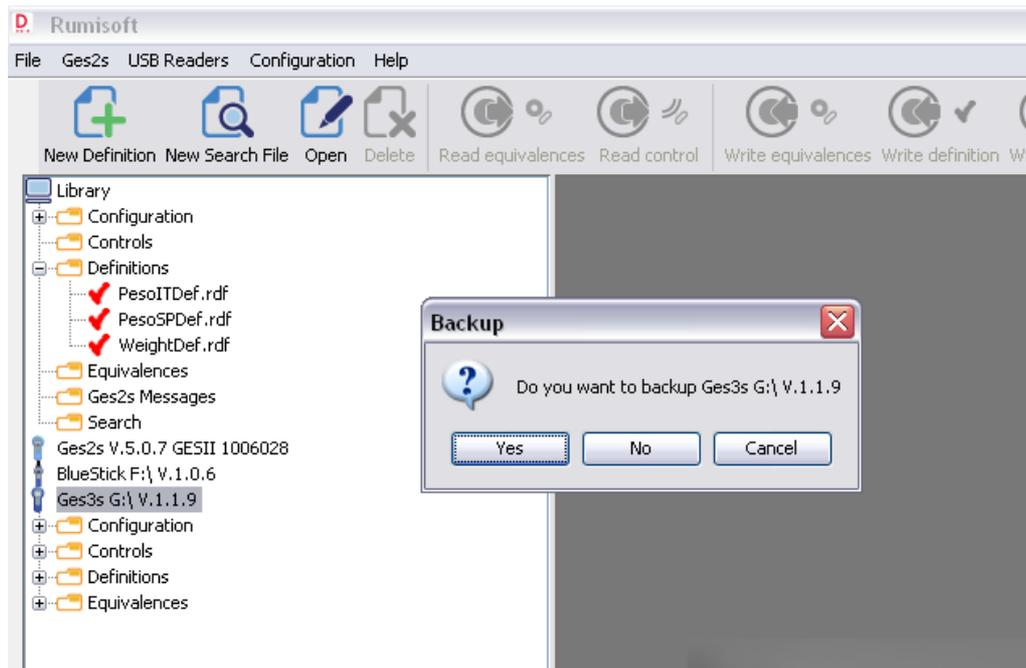

Figure 19
Update: updates the USB READERS firmware from a ZIP file. Before updating, software asks the user for a backup of the reader (Figure 19) and shows a file selector to select the new firmware zip file (Figure 20). It is recommended to backup to be able to restore the reader if new firmware doesn't work. This option is only available in advanced mode.
**Backup:** backups the reader's files in the PC to be able to restore the reader with a previous status after any undesired action like files deleting or firmware crash. Software asks for a confirmation of this action (Figure 19).